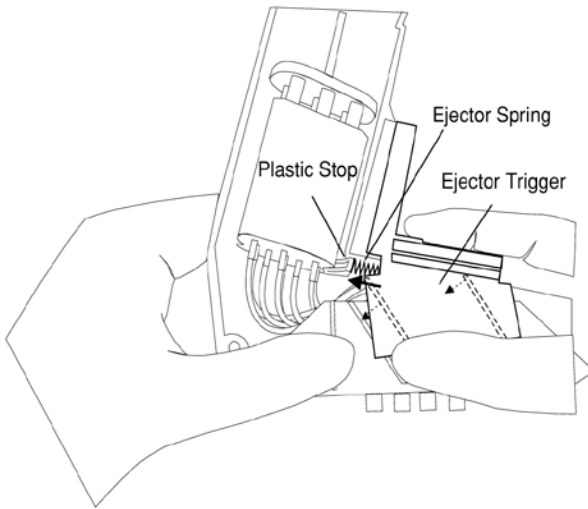

Figure F.2.3h: Inserting Ejector Trigger
6. Hold the ejector comb in place while inserting the ejector trigger (see *Figure F.2.3h*). Place the end of the ejector spring against the plastic stop and compress the spring while positioning the ejector trigger over the aluminum ejector comb (*the ribs on the ejector trigger should mate with the slots on the aluminum ejector comb*). For 16-channel models, install the trigger prior to connecting the ejector comb.